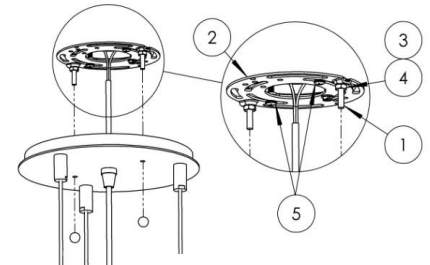

FIG 1
- Install the short screws (1) with lock washers (3) and hex nuts (4) (all provided) into the offset holes of the round mounting bracket (2) as shown in Fig 1 & 2. Be sure the two screws (1) line up with holes in canopy (6) and point away from junction box (not provided).
- Install and secure the round mounting bracket assembly to the junction box in ceiling with the longer screws (5) provided, (Fig. 1).